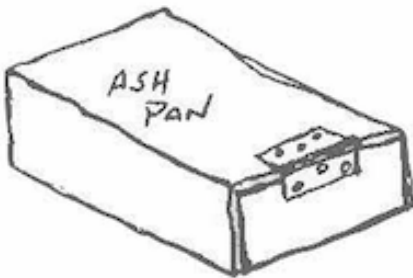

Figure 9 - Ash Pan with hinged door. (Image credit: Future Generations University)
24. Cut ½" steel rod into 7 ½" long pieces, 11 pieces total. (See Figure 9) Using seven pieces, make a grid pattern with 4 pieces on top and 3 pieces on the bottom. Weld the grid together. Using the 4 remaining pieces, add legs to the grid. This fire grate will sit down in the bottom of the chimney to keep the coals above the air intake and ash pan area.